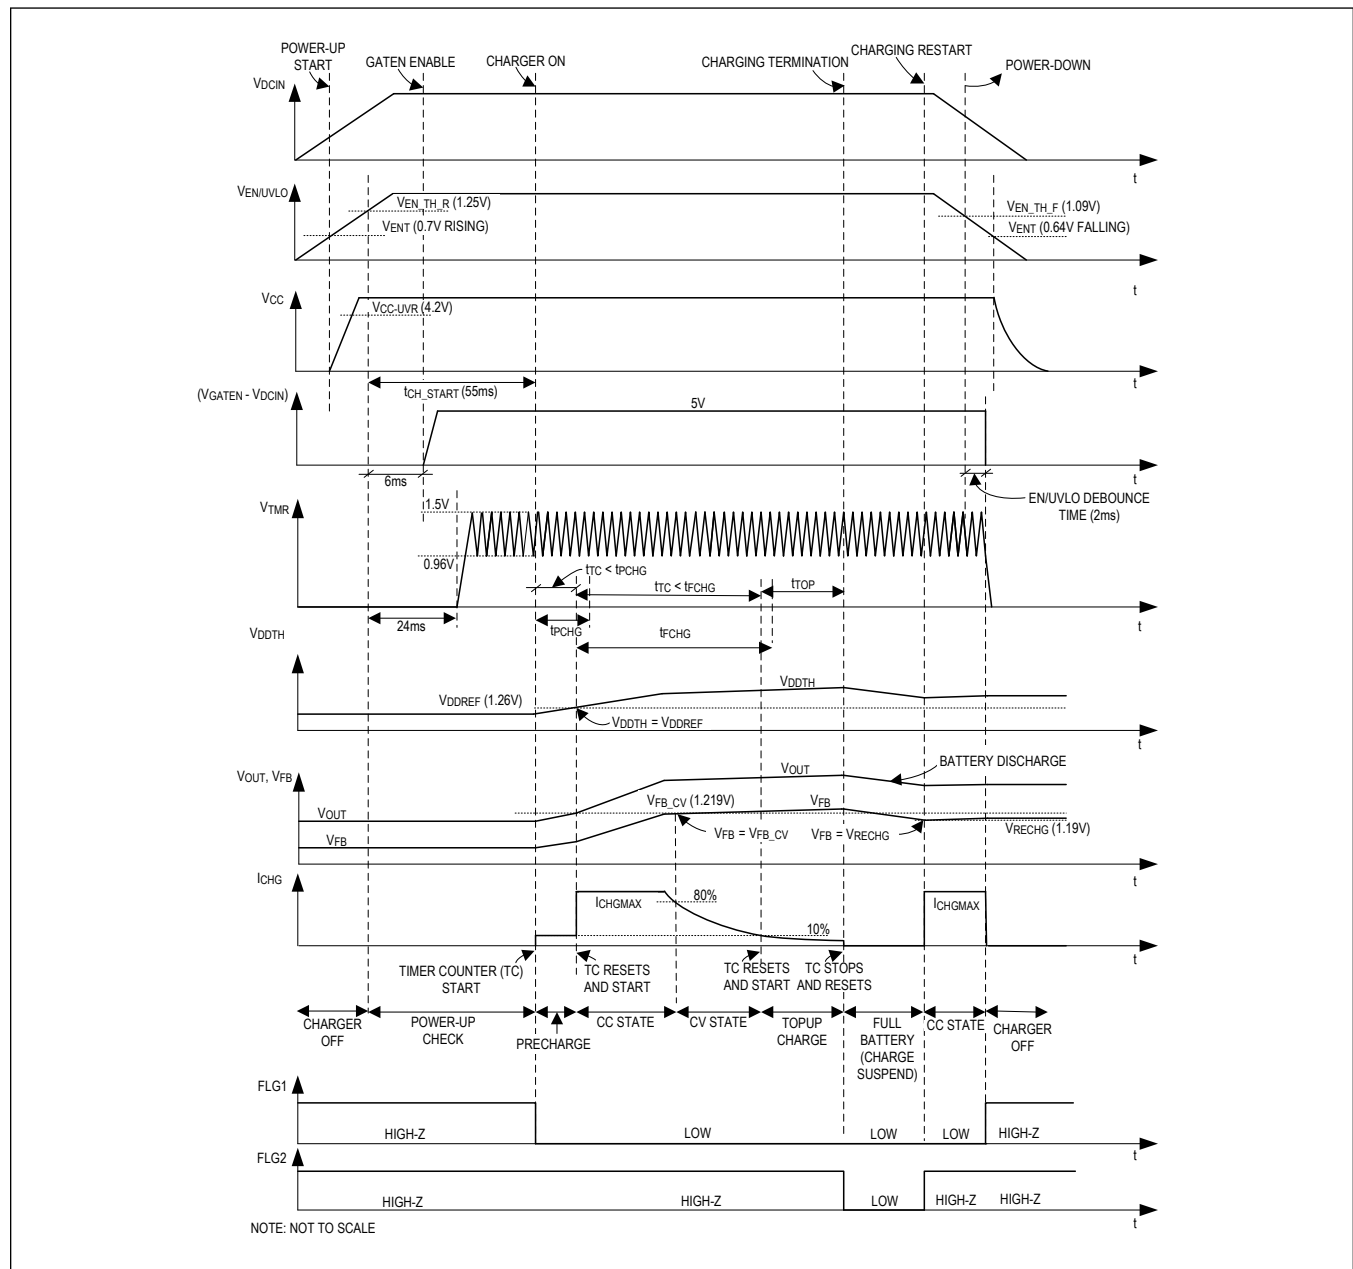
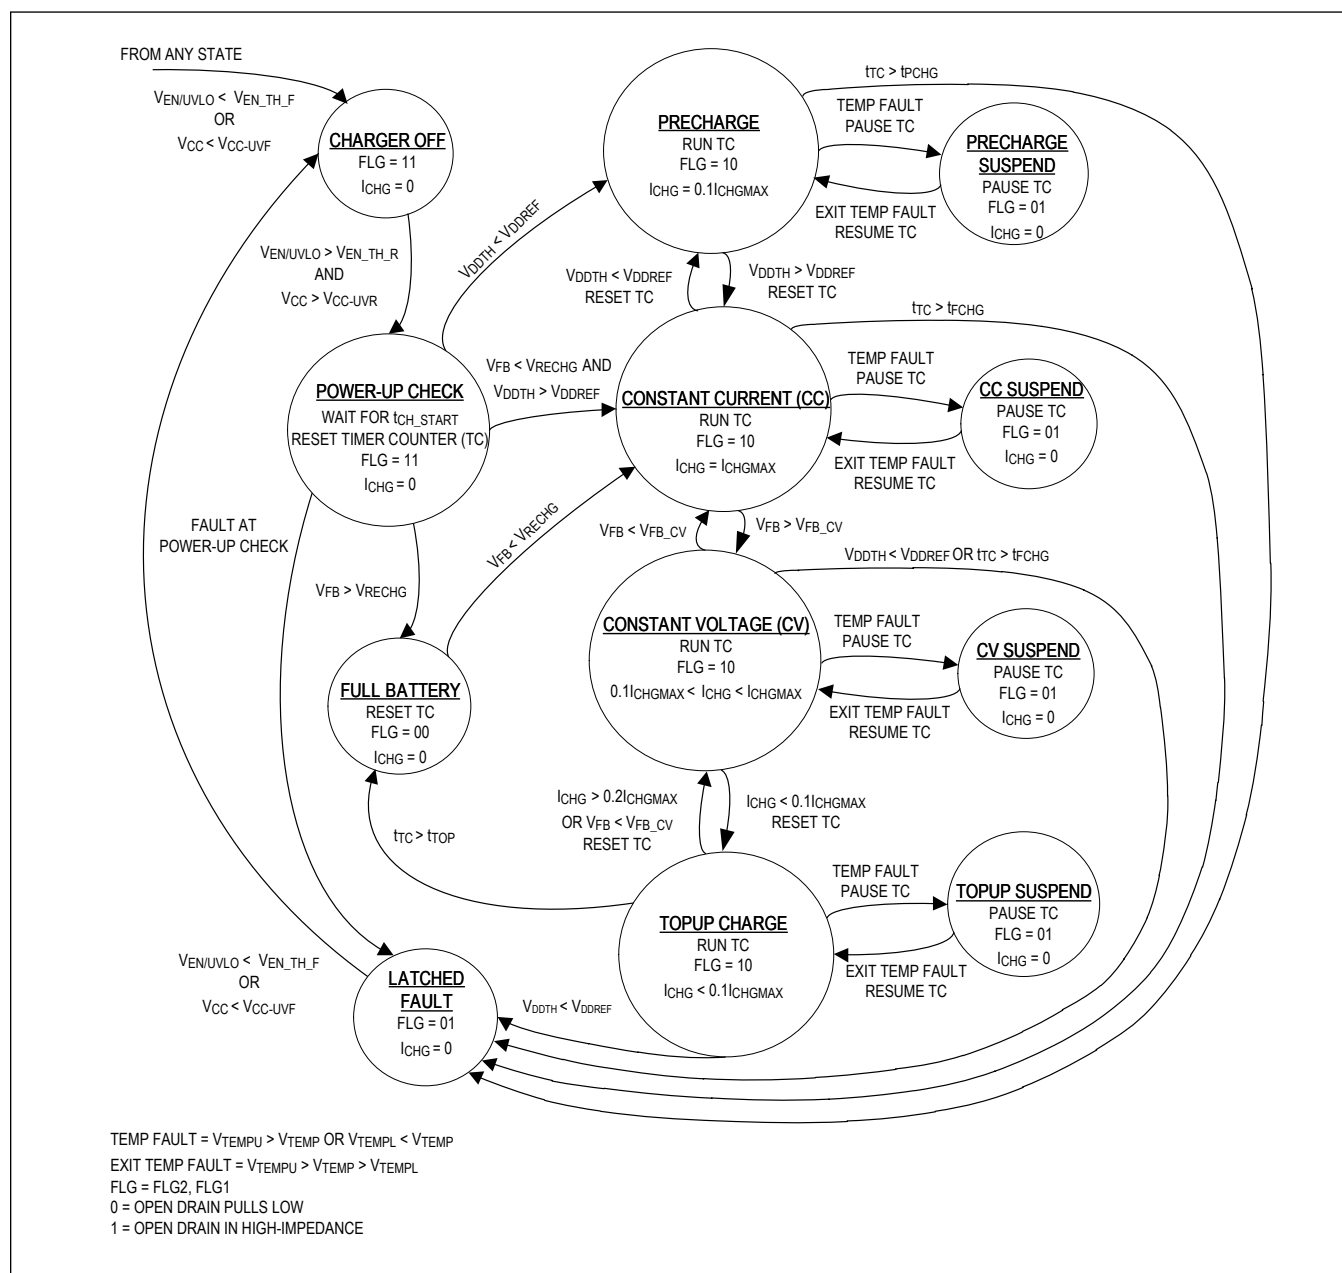

Figure 2. Charger Power-Up/-Down Sequence and Li-Ion Battery Charge Cycle
Figure 3. Charger-State Diagram
Figure 2 shows both the MAX17703 power-up/down sequence when the DCIN voltage is applied/removed, and a Li-ion battery charge cycle. Figure 3 shows the Charger-State diagram of the IC. MAX17703 offers precharge, constant-current (CC), constant-voltage (CV), and topup-charge states for charging Li-ion batteries.